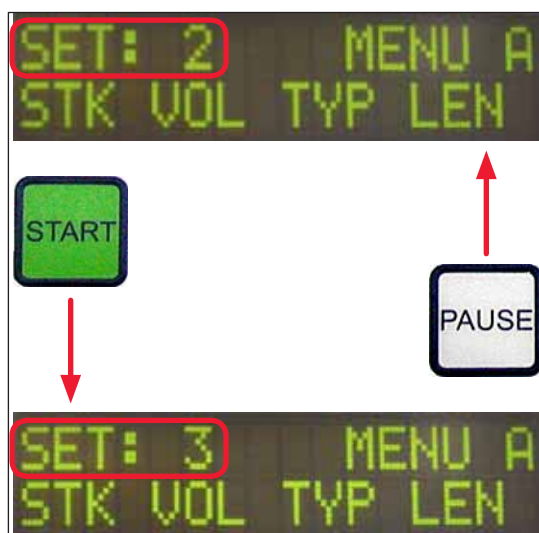

Fig. 39
① There are a total of four programs (**SET 1** to **SET 4**) that can be stored in the instrument with different parameter settings.
- Pressing the **PAUSE** button calls up the next lower program (→ Fig. 39).